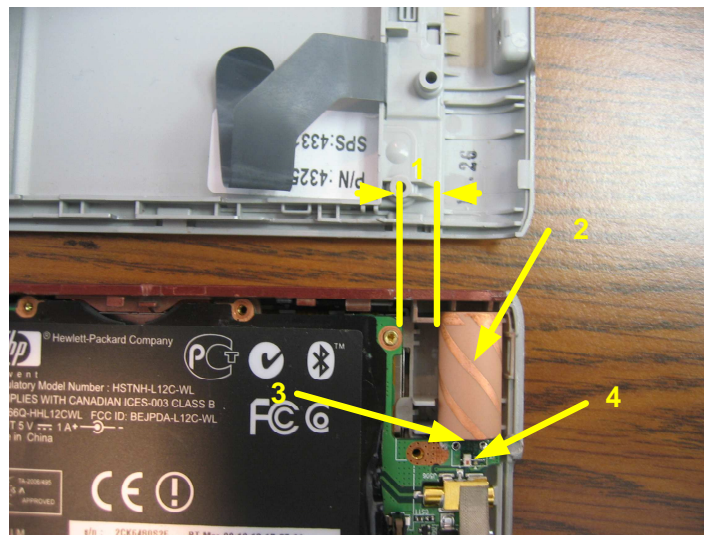

Figure 1. M1575CQA1020 integration in a handheld GPS device.
Figure 1 shows an example integration of the M1575CQA into a typical handheld GPS device. The integration consists of antenna element with phase shifter board (2), differential connector (3), and 0805 balun placed on the host device PCB board (4). The balun part number is Johanson 1600BL15B100. It is important to follow the recommended layout guidelines as outlined in the part description document. A minimum separation distance of 5 mm is required between the antenna and the closest metallization, in this case host device PCB, as illustrated by (1).